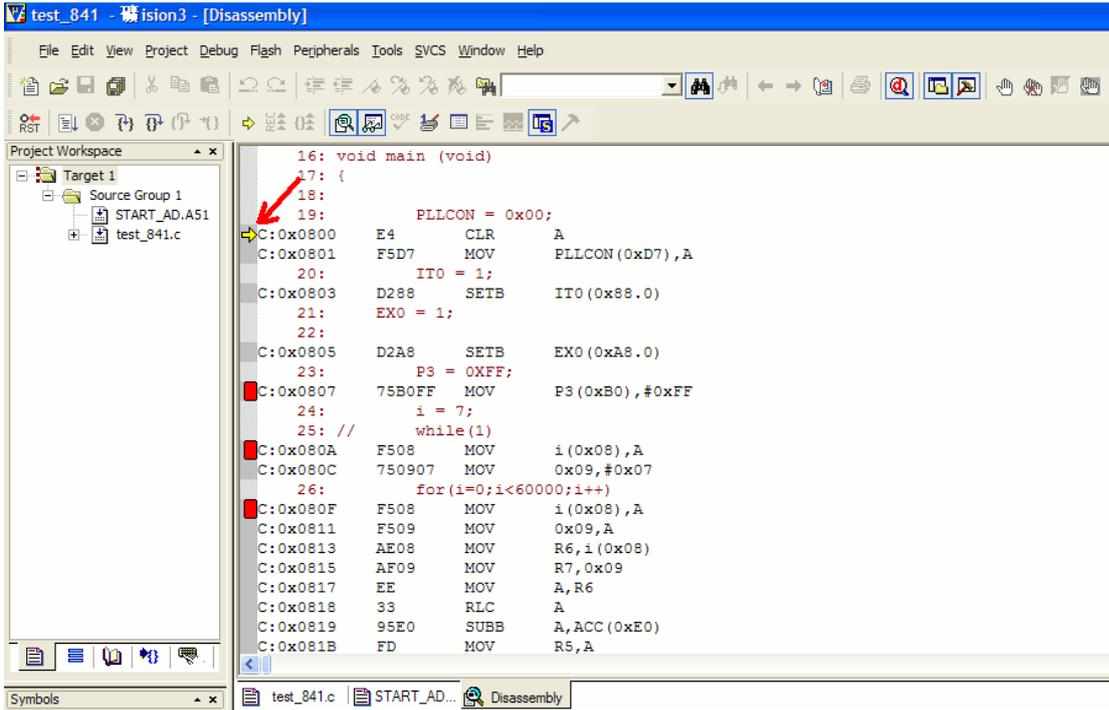

Figure 5
5. As Figure 5 displays, we can only debug the code in the Disassembly window. The yellow arrow is the beginning of program.